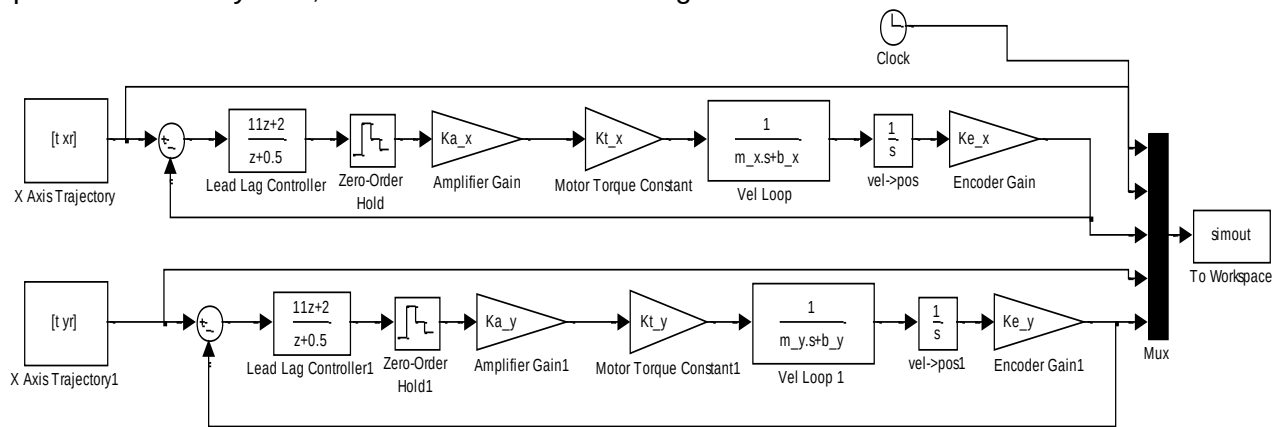

Figure 3: Simulink Model for Trajectory Simulation
C.1. Implement the discrete position controller with the continuous velocity dynamics using a zero-order hold block in Matlab/Simulink environment. Apply the generated reference trajectory in A.1 to the two-axis position control system, constructed as shown in Figure 3.